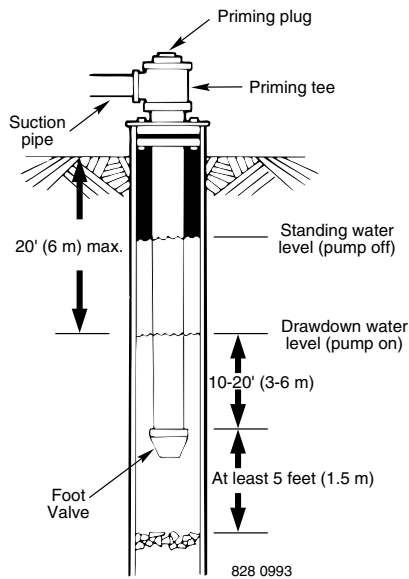
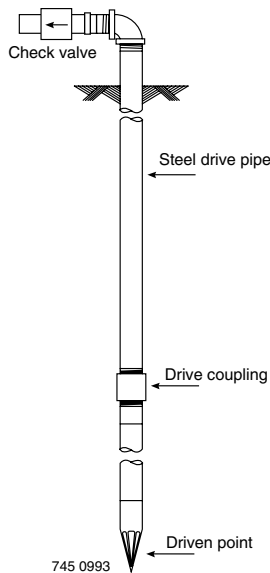

Figure 5 – Cased/Dug Well Installation
Figure 6 – Driven Point Installation
- Step 5. When using a foot valve, a priming tee and plug as shown in Figure 5 are recommended.
- Step 1. Connect the suction pipe to the drive point as illustrated in Figure 6. Keep horizontal pipe run as short as possible. Use Teflon tape on male pipe threads. Multiple well points may be necessary to provide sufficient water to pump.
- Step 2. To aid priming on well point installations, install a line check valve as shown in Figure 6. Be sure check valve flow arrow points toward pump.
NOTICE: For long horizontal pipe runs, install a priming tee between check valve and well head as shown in Figure 5. For driven point installations, install a check valve as shown in Figure 6. Be sure check valve flow arrow points **toward** pump.